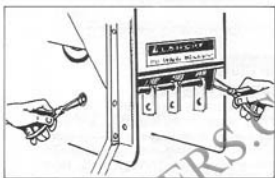

Fig. 2
- Hold Cylinder Pin with pliers and remove cotter pin at other end of pin as shown in Figure 2